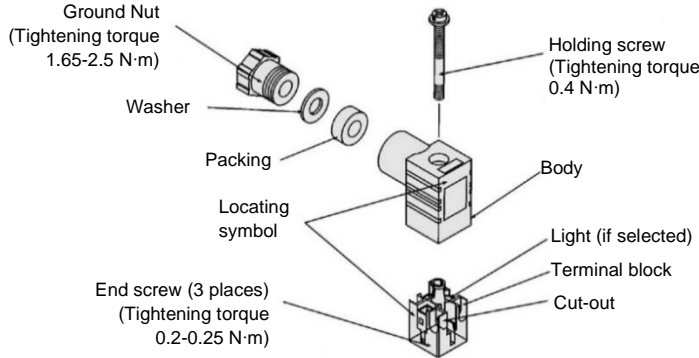

Figure 7. JSX10 DIN connector construction
- Tighten screws and fittings according to Figure 7 or 8.